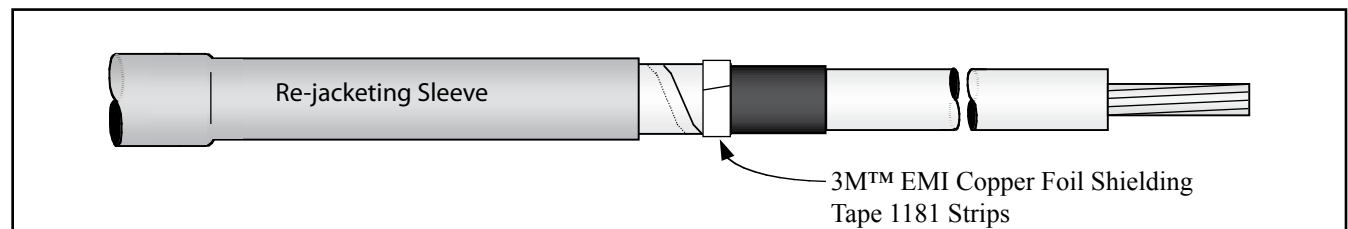

Figure 19
5.2 Secure cable copper tape shield ends with 3M™ EMI Copper Foil Shielding Tape 1181 Strips (*Figure 19*).